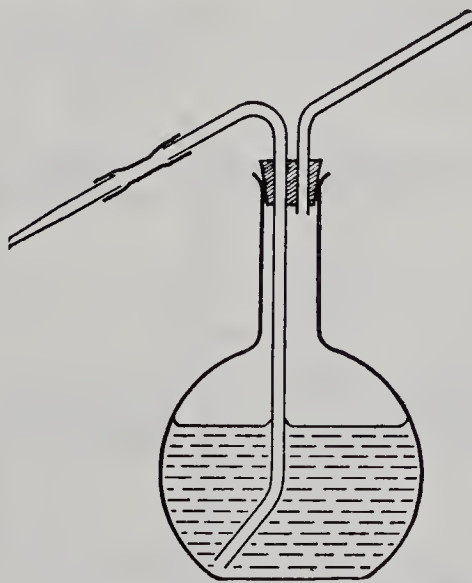

Fig. 7. A wash bottle.
9. Washing a precipitate. When an insoluble substance is filtered out of a solution, the pores of the filter paper retain a portion of the solution itself. Some of the solution also adheres to the particles of retained solid. To eliminate all traces of the soluble material, the residue is washed by adding distilled water. The wash bottle shown in Fig. 7 is commonly used as a container for the distilled water. On blowing into the mouth-piece, a fine stream is forced out of the jet. Sometimes the water is poured directly from the mouth-piece in 5 to 10 ml. portions, and each portion is allowed to run through the filter paper before adding the next. This treatment is continued until all the soluble material is washed through. The insoluble material can then be dried and weighed.
Constructing a wash bottle. A wash bottle is shown in Fig. 7. The nozzle should be drawn out so that only a moderately fine stream of water is forced out by gently blowing into the mouthpiece. All the ends of the glass tubing used must be fire-polished. Wash bottles are of value as containers for distilled water to be used in washing precipitates, making special solutions, rinsing glassware, etc.